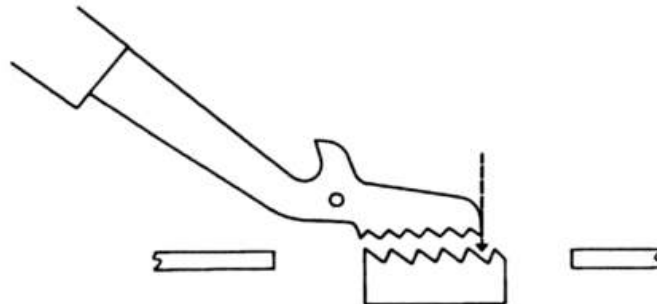

Fig. 7
The front edge of the top feed foot must be between the first and second tooth point of the center tooth row of the feed dog (fig. 7).
- Carry out a visual check (fig. 7).